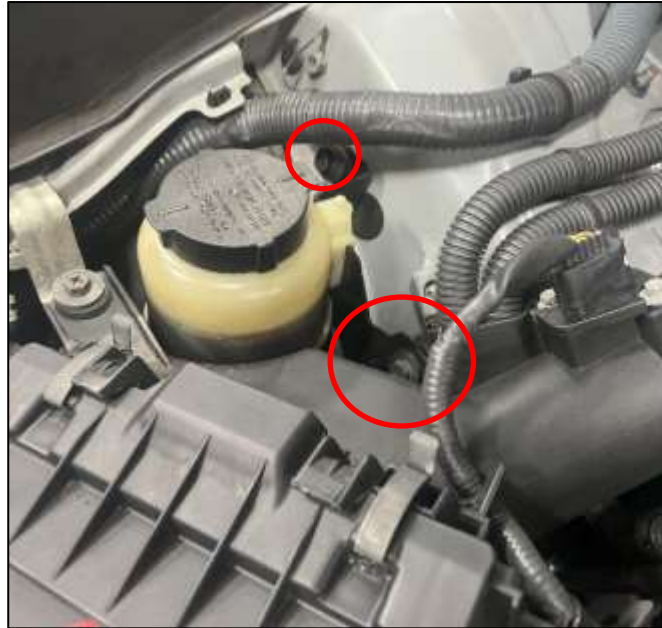

Figure 1
3. Replace the (3) three bolts attaching the Power Steering Reservoir Bracket to the chassis with the (3) three supplied M6 x 1.0, 25mm bolts with washer. The OE Bolts are too long and will contact the new FUCA Bushings. *Figure 1.*